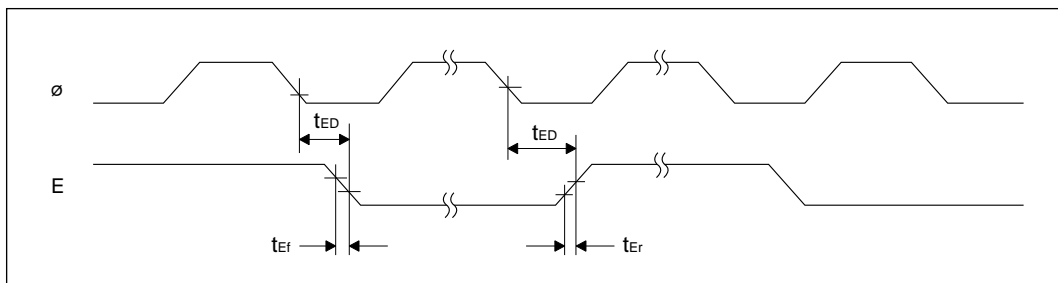

Figure 20-11 E Clock Timing
20.3.3 Clock Timing	Figures 20-11 and 20-12